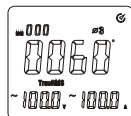

Figure 11-3
- Please press SELECT key to select the 3rd phase location of ϕ 3 shown in Figure 11-3. It also can display apparent power, voltage and current of phase location of ϕ 3.